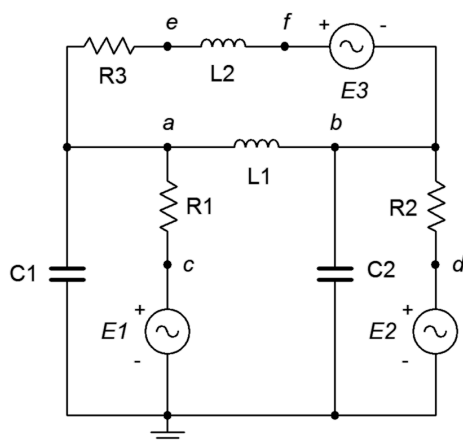

Figure 5.42
72. Reconfigure the circuit of Figure 5.42 so that it uses only current sources. Express all new component and source values in terms of the original labels.